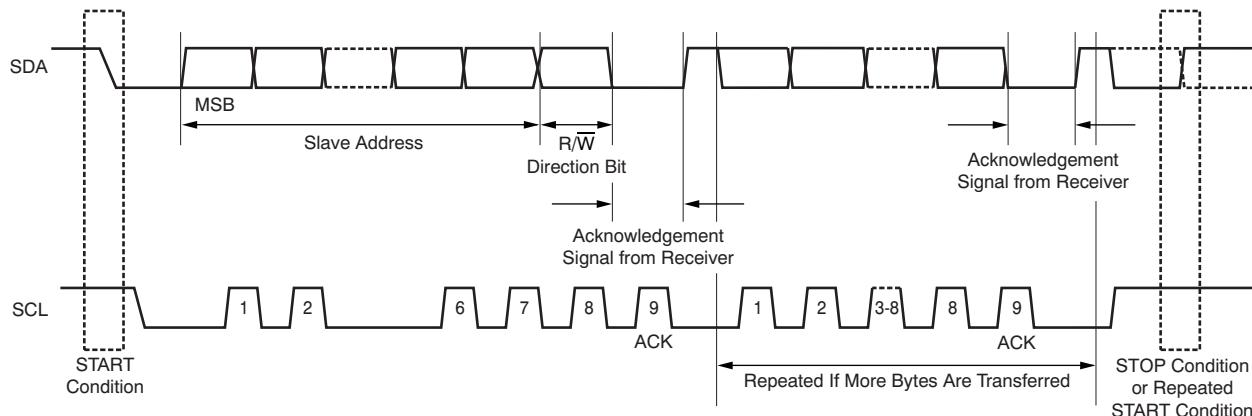

Figure 29. Complete Fast- or Standard-Mode Transfer
The following bus protocol has been defined (see Figure 29):
Figure 29 details how data transfer is accomplished on the I2C bus. Depending upon the state of the R/W bit, two types of data transfer are possible:
In the serial transfer format of F/S mode, the master signals the beginning of a transmission to a slave with a START condition (S), which is a high-to-low transition on the SDA input while SCL is high. When the master has finished communicating with the slave, the master issues a STOP condition (P), which is a low-to-high transition on SDA while SCL is high, as shown in Figure 29. The bus is free for another transmission after a stop condition has occurred. Figure 29 shows the complete F/S mode transfer on the I2C, 2-wire serial interface. The address byte, control byte, and data byte are transmitted between the START and STOP conditions. The SDA state is only allowed to change while SCL is low, except for the START and STOP conditions. Data are transmitted in 8-bit words. Nine clock cycles are required to transfer the data into or out of the device (8-bit word plus acknowledge bit).